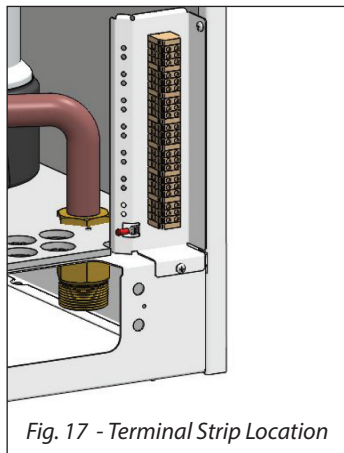

Fig. 17 - Terminal Strip Location
The low voltage terminals are located at the bottom of the CTRLMax control module. The line voltage terminals are located in the lower right corner as shown in Fig. 17 below.
1. Connect a dedicated 120 VAC/15A service to the line voltage terminals located internally in the lower right corner, as shown in Fig. 17 below.
2. The internal circulator is prewired to the CH circulator output. An additional circulator cannot be wired to these line voltage terminals located internally in the lower right corner, as shown in Fig.17 on the left.
3. Connect the DHW circulator wiring to the line voltage terminals located internally in the lower right corner, as shown in Fig.17 on the left. This circulator is typically used as the system loop circulator in a zone valve system.
4. Connect the P3 circulator wiring to the line voltage terminals located internally in the lower right corner, as shown in Fig.17 on the left. This circulator is typically used as a dedicated circulator to the first space heating zone.
5. Connect the P4 circulator wiring to the line voltage terminals located internally in the lower right corner, as shown in Fig.17 on the left. This circulator is typically used as a dedicated circulator to a second space heating zone.
1. Connect the external monitoring device to the line voltage terminals located internally in the lower right corner, as shown in *Fig. 17 on page 31*.